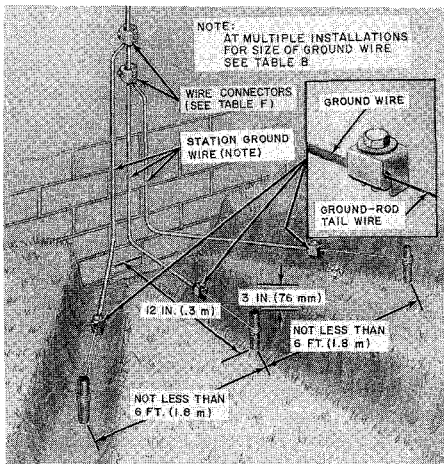

Fig. 78—♦Three Ground Rods♦
protectors together. Select wire connectors from Table F. No more than three ground rods need be placed. Space ground rods at least 6 feet apart (Fig. 78).
9.08 Multiple station protectors, such as the 116- or 117-type, should *not* be connected to a single telephone ground rod unless the rod is bonded to the power system ground rod. If a power system ground rod is not available, a multiple station protector may be connected to an array of three telephone ground rods, spaced at least 6 feet apart, and bonded together with No. 6 ground wire (Fig. 78).